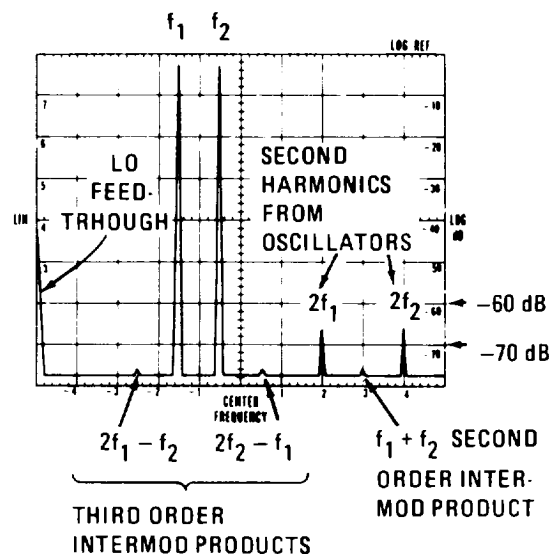

Figure 4-8. Intermodulation Distortion Products Display
10. Refer to Figure 4-8; the signals at 140 kHz ( $2f_1$ ) and 180 kHz ( $2f_2$ ) are oscillator second harmonics. Any second order intermodulation product (due to the analyzer) will occur at 160 kHz ( $f_1 + f_2$ ). Any third order intermodulation products will occur at 50 kHz ( $2f_1 - f_2$ ) and at 110 kHz ( $2f_2 - f_1$ ). The intermodulation products should all be below -70 dB graticule line: